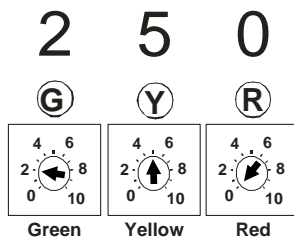
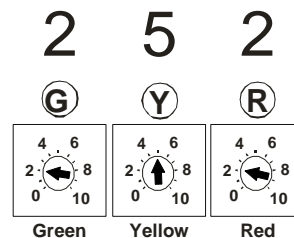

FIGURE 4
FIGURE 5
1. Start with the base setting in Figure 4 if a full exhaust system is installed. If a full exhaust system is installed in combination with an aftermarket air intake system, use the setting in Figure 5. Refer to Step 2 if the stock exhaust is installed or a slip-on muffler is being used to determine the proper pot settings. Adjust and test only ONE adjustment pot at a time until you are happy with the result.